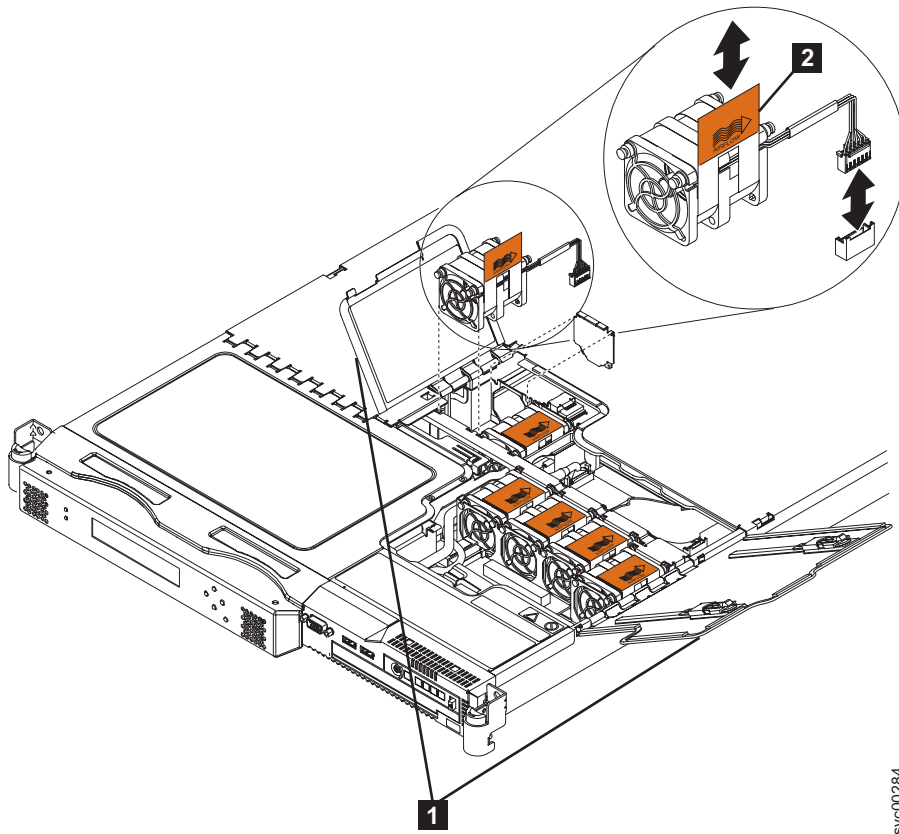

Figure 235. SAN Volume Controller 2145-8G4 fan doors, locations, and connectors
2. Slide the node forward to gain access to the fan doors (**1** in Figure 235 on page 213).
5. Pull up on the orange tab (**2** in Figure 235) of the failing fan to lift the fan out of the node.